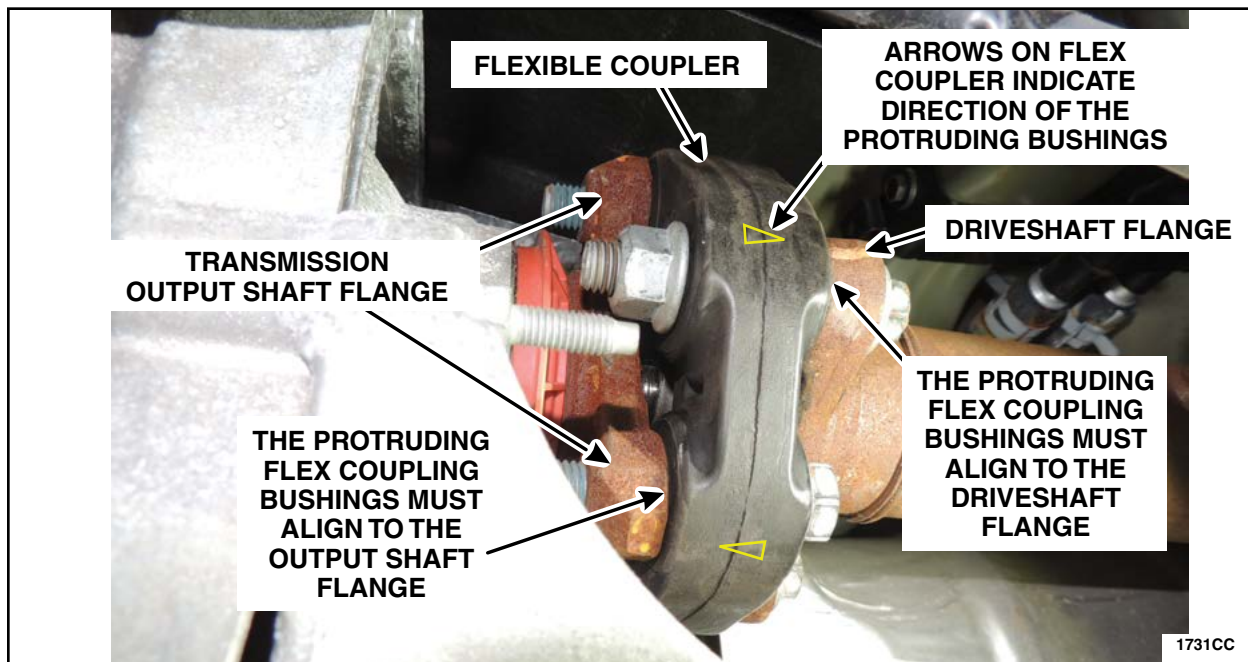

FIGURE 12
12. Reinstall the driveshaft with the appropriate center bearing shim according to the chart in Figure 13. Please follow the Driveshaft Removal and Installation Workshop Manual (WSM) procedure in Section 205-01. See Figures 12, 13 and 14.
NOTICE: The flex coupler must be installed with the blue paint mark facing the transmission output flange. The protruding flex coupler bushings must align with the driveshaft flange and transmission output flange. Arrows should point at the ears of each flange shown in Figure 12.